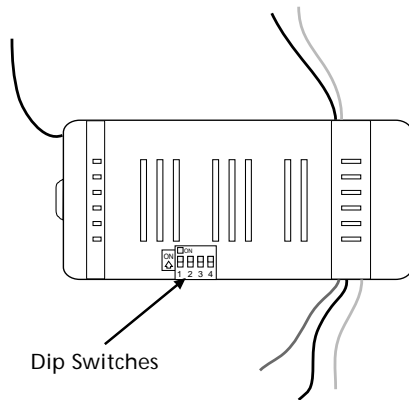

Figure 6c - Setting the Code on the Receiver
- Slide the dip switches to the same on/off position as the transmitter using a ball-point pen or small-head screwdriver. Refer to Figure 6c.